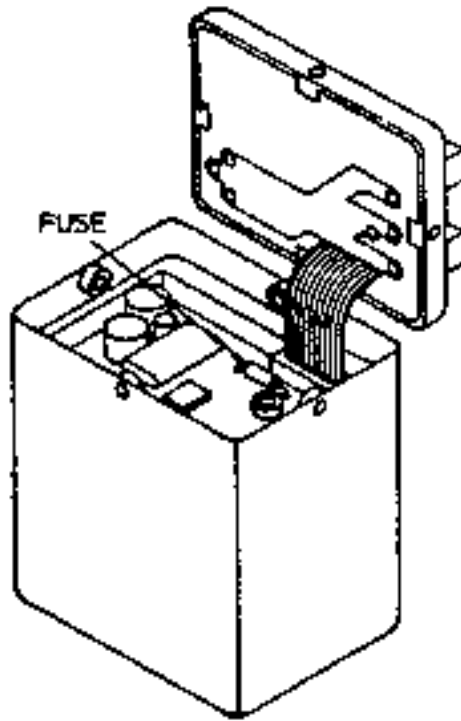

Figure 3. Location of Fuse in the Reference Oscillator
- a. Refer to figure 3. Remove the four screws holding the cover in place.